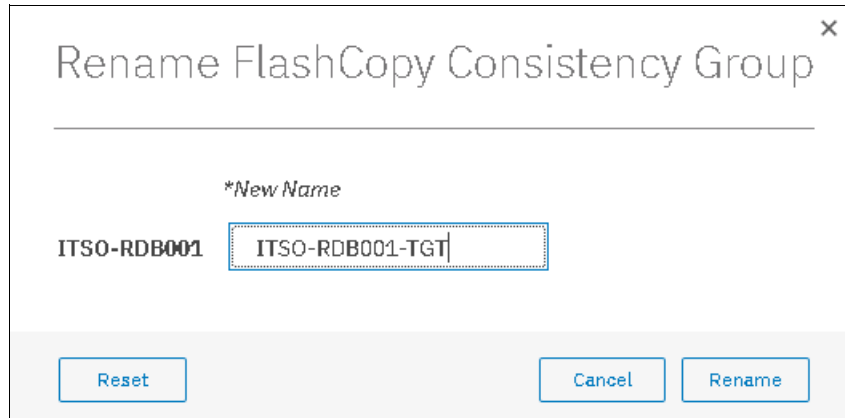

Figure 10-53 Changing the name for a Consistency Group
3. Enter the new name that you want to assign to the Consistency Group and click **Rename**, as shown in Figure 10-53.